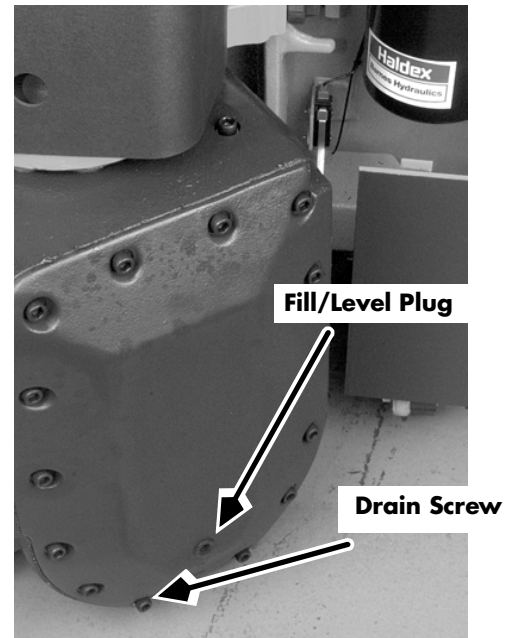

Figure 6-42: Drive Unit Fill Plug
3. Remove the drive unit fill plug and drain screw (lower cover screw). See Figure 6-42. Allow the gear oil to drain.